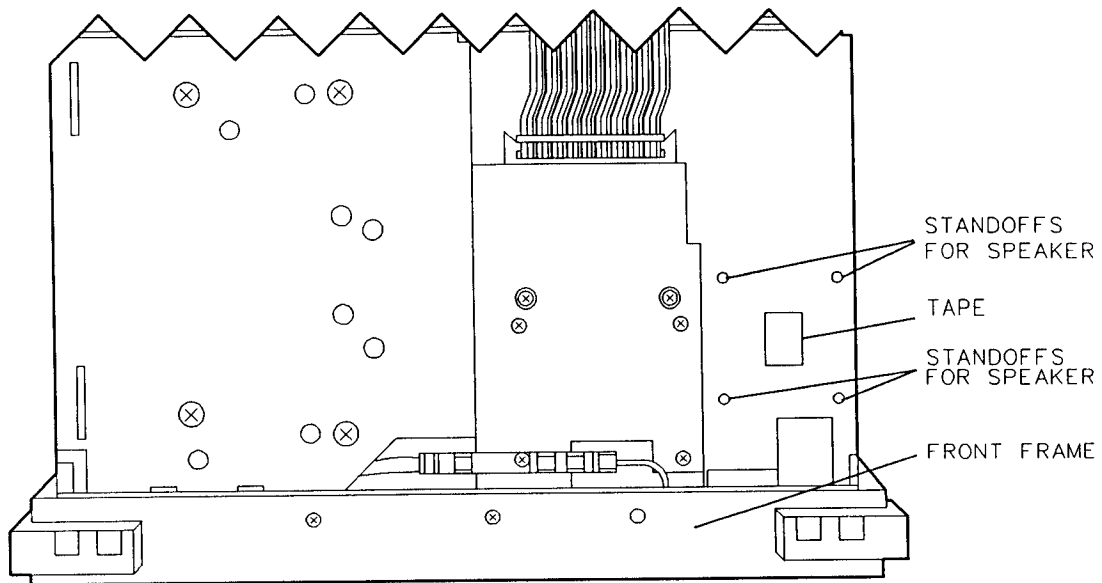

Figure 2. Placement of Tape
2. Cut the double sided tape into two equal lengths. Remove the backing from the tape and place each piece, one on top of the other, on the chassis. Center the tape within the four speaker standoffs. See Figure 2.